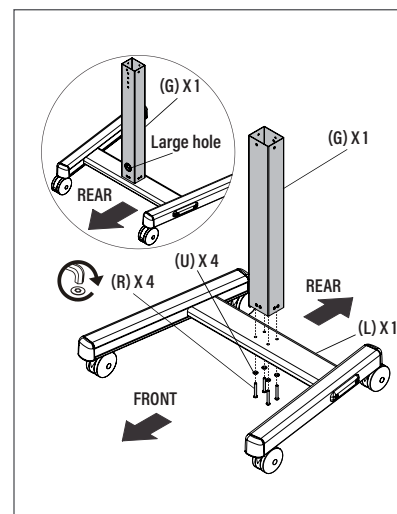

Figure 2
Attach the lower column (G) to the crossbar (L) using four 5/16-18 x 2-1/4" screws (R) and 5/16" washers (U). (See Figure 2)